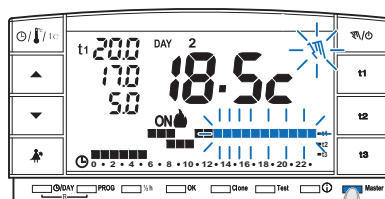

fig. 85
- briefly press the "Master" key; the message **Master** will disappear from the screen: the chronothermostat stays in "temporary manual" operation and the zones assigned to the master will return under the control of their transmitters (example in fig. 85).